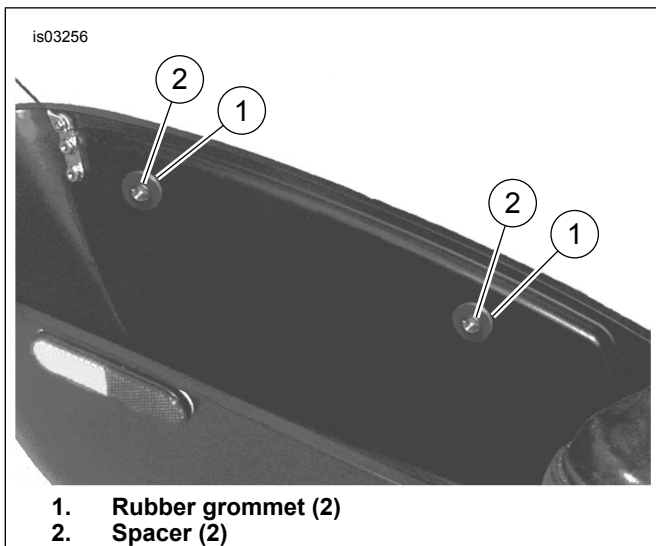
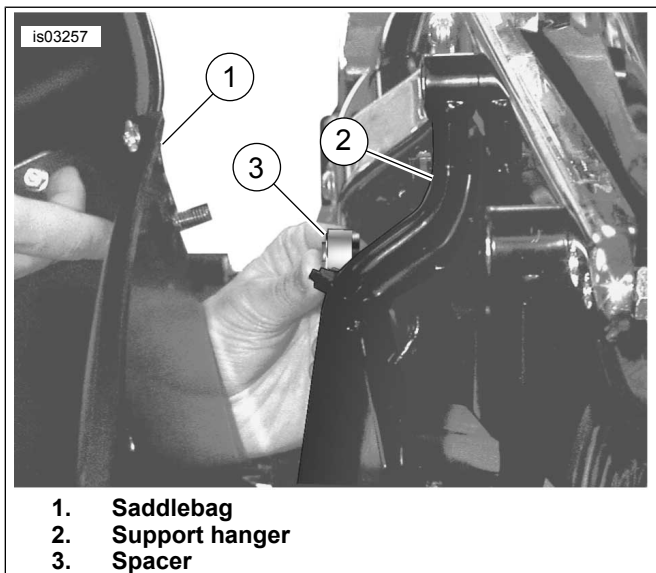

Figure 13. Install Grommets and Spacers
Figure 14. Install Spacer
1. See Figure 13. Install rubber grommets (1) into holes inside of saddlebag.
2. Install spacer (2) into each of the grommets.
3. See Figure 14. Hold saddlebag (1) up to hanger (2) and locate spacer (3) between saddlebag and support hanger.